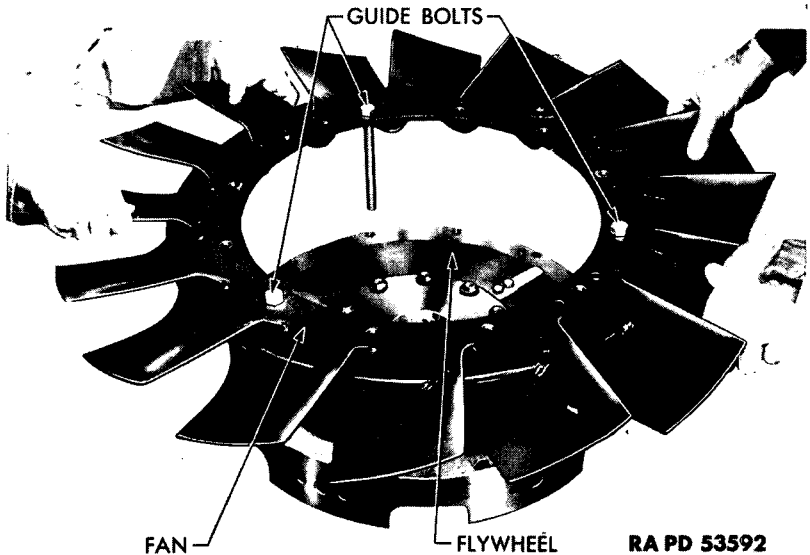

Figure 193 – Assembling Fan and Flywheel
a. **Remove Fan from Flywheel.** Mark fan and flywheel with prick punch for identification when reassembling. Drive out 12 flywheel ring bolts from flywheel and fan. Lift off fan (fig. 193).
a. Install Separator Springs on Flywheel. Using new cap screws and spacers, reinstall separator springs on flywheel. Use two cap screws to install each spring. Tighten screws and fasten them with lock wire (fig. 193).
b. **Assemble Fan to Flywheel.** Place three guide bolts in fan (fig. 193). Lift fan, and position it over flywheel with index marks lined up. Guide bolts over matching bolt holes in flywheel. Drive bolts all the way through assembly.